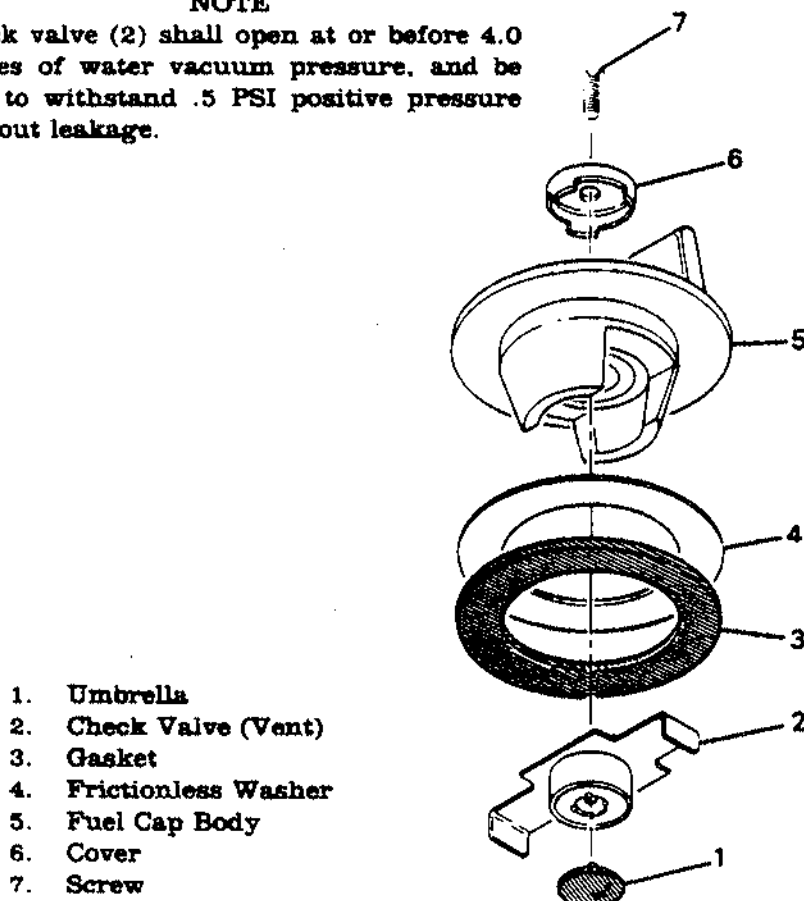

Figure 12-12. Vented Fuel Filler Cap
Protect drain holes and fuel outlet screens when applying sealants. **DO NOT** plug drain channels between stiffeners (4) at inboard end of stringers (5) on lower skin (6). See figure 12-12 (typical lower skin section).